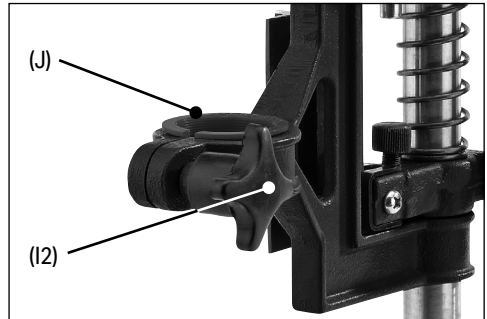

Fig. 5
5. Attach the drill knob (I2) and turn to lock in place. Once tightened this will hold the drill in place during operation. Fit the collar reducer (J) into the drill collar (3) if required. (Fig. 5)